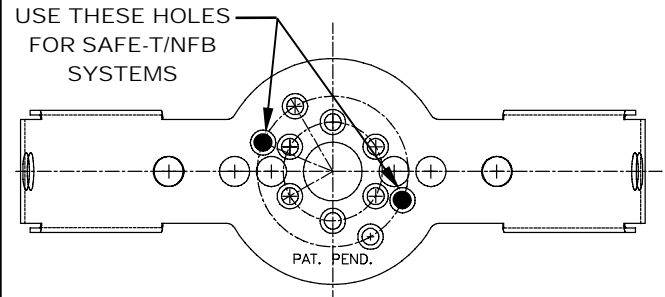

FIGURE 1a
**Step 2.** Using the template provided, mark the plastic bezel and drill two 3/16" diameter holes (see Figure 1a).